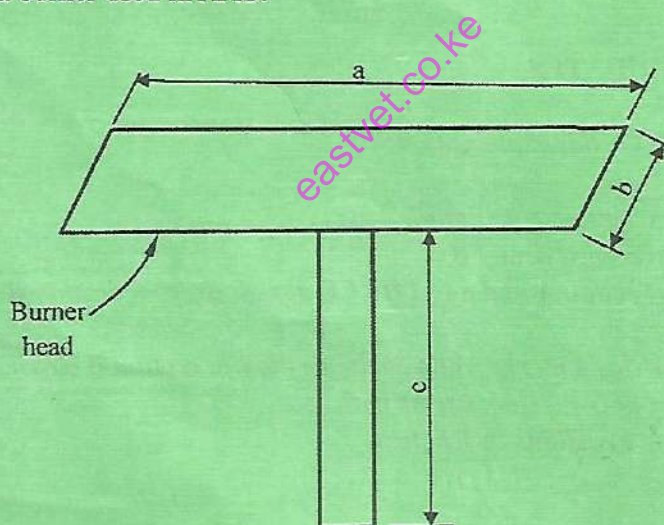

Fig. 1
4. Figure 1 shows a burner used in AAS.